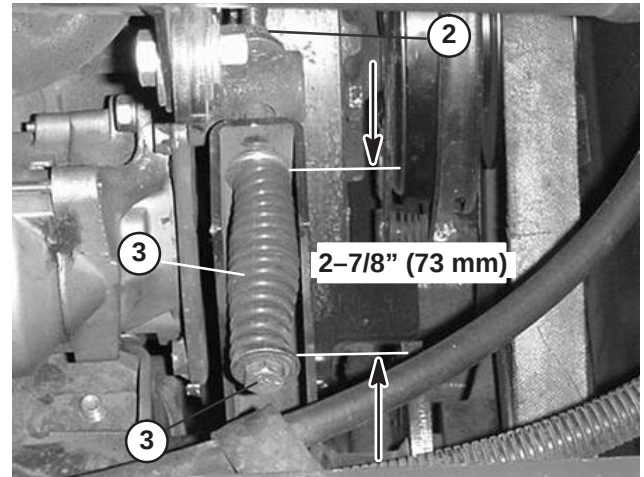

Figure 46
2. Loosen the tensioning rod jam nut (Fig. 46).
3. Use a 1/2" wrench to tighten or loosen the belt tensioning spring (Fig. 46). Adjust spring to a length of 2-7/8" (73 mm).
3. Using a 1/2" wrench, loosen the belt tensioning spring (Fig. 46) all the way.
5. Install the new PTO belt and re-tension the pulley spring to 2-7/8" (73 mm) (Fig. 46).
6. Tighten the jam nut (Fig. 46) and close the hood.